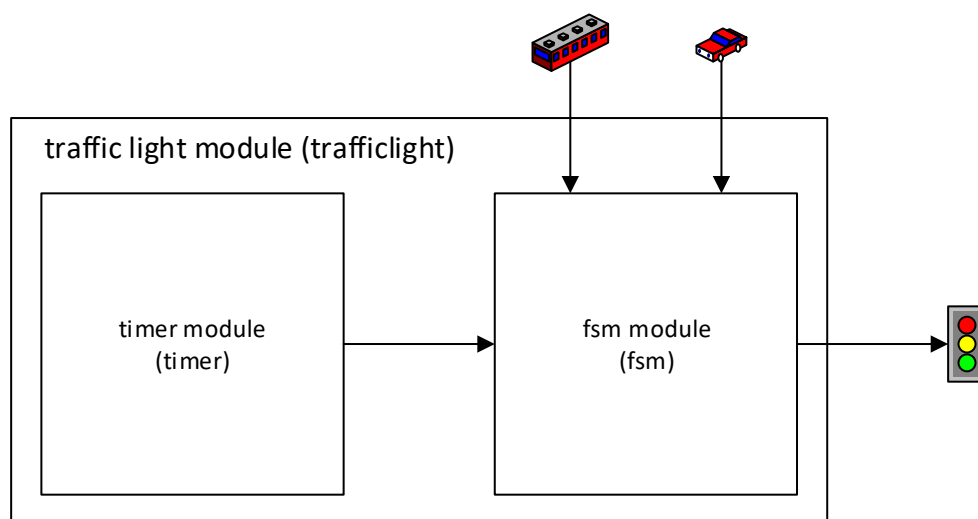

Figure 2 Design of the traffic light module
1. Integrate the timer module (timer) and FSM module (fsm) in the traffic light module (trafficlight) as shown in Figure 2. In doing so, connect the signals with the both modules through the following interfaces: